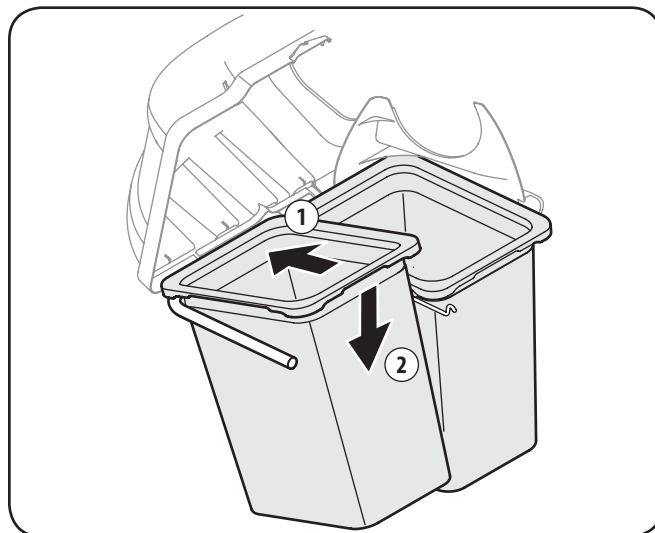

Figure 4-15
8. Install both bag assemblies onto the bag support brackets by inserting the front edge in first, as seen in 1 of Fig. 4-15, and setting the back edge down until it fits into the assembly (2).